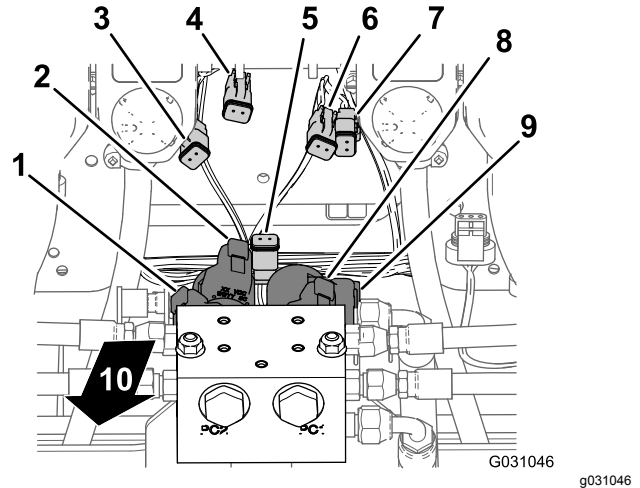
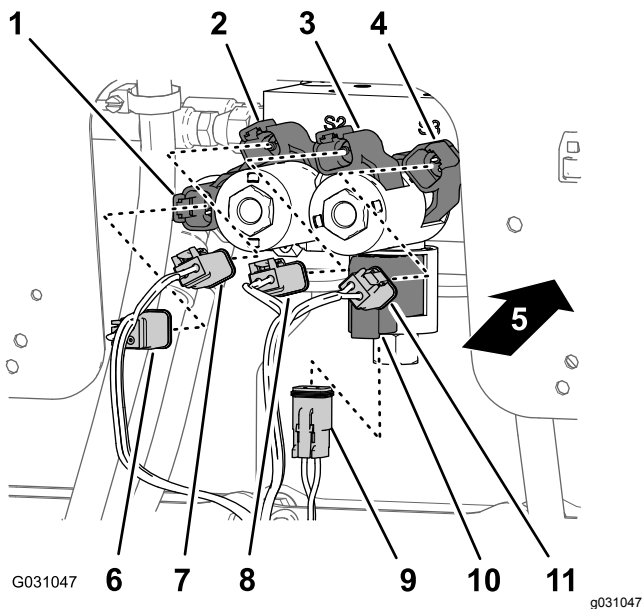

Figure 104
Figure 105
1. At the bottom of the lift-cylinder manifold, connect the 2-socket connector of the rear wire harness labeled **Enable Solenoid** into the 2-pin connector for the enable solenoid (Figure 104 and Figure 105).
- At the lower right solenoid, connect the 2-socket connector of the rear wire harness labeled **Right Down** into the 2-pin connector for the right down solenoid (Figure 104 and Figure 105).
- At the upper right solenoid, connect the 2-socket connector of the rear wire harness labeled **Right Up** into the 2-pin connector for the right up solenoid (Figure 104 and Figure 105).
- At the lower left solenoid, connect the 2-socket connector of the rear wire harness labeled **Left Down** into the 2-pin connector for the left down solenoid (Figure 104 and Figure 105).